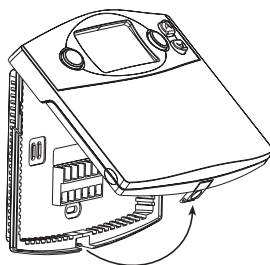

Figure 2
- Remove the wallplate from your thermostat by pressing the release tab on the bottom of the thermostat. (See Figure 2.)